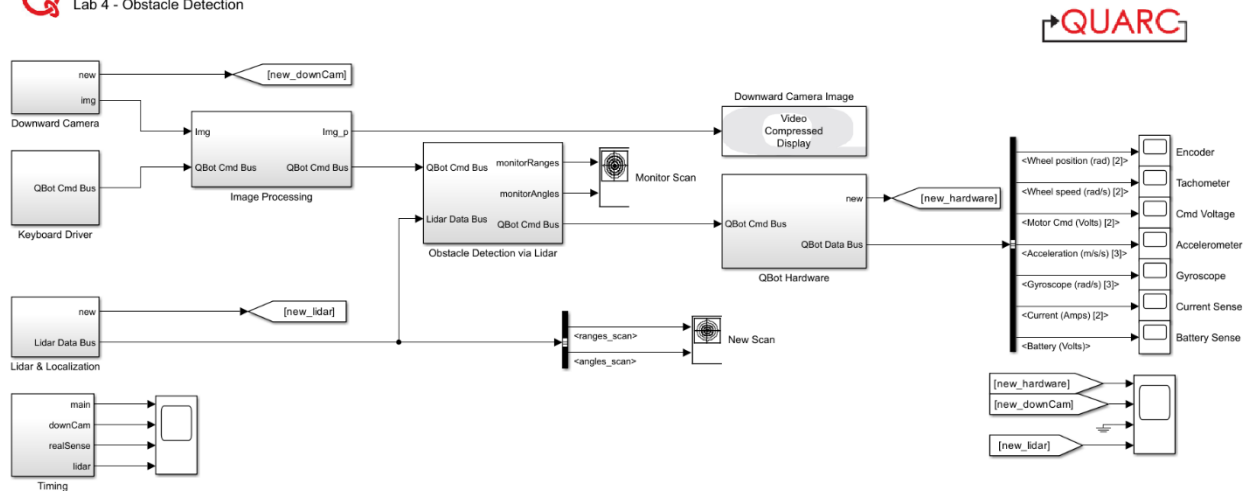
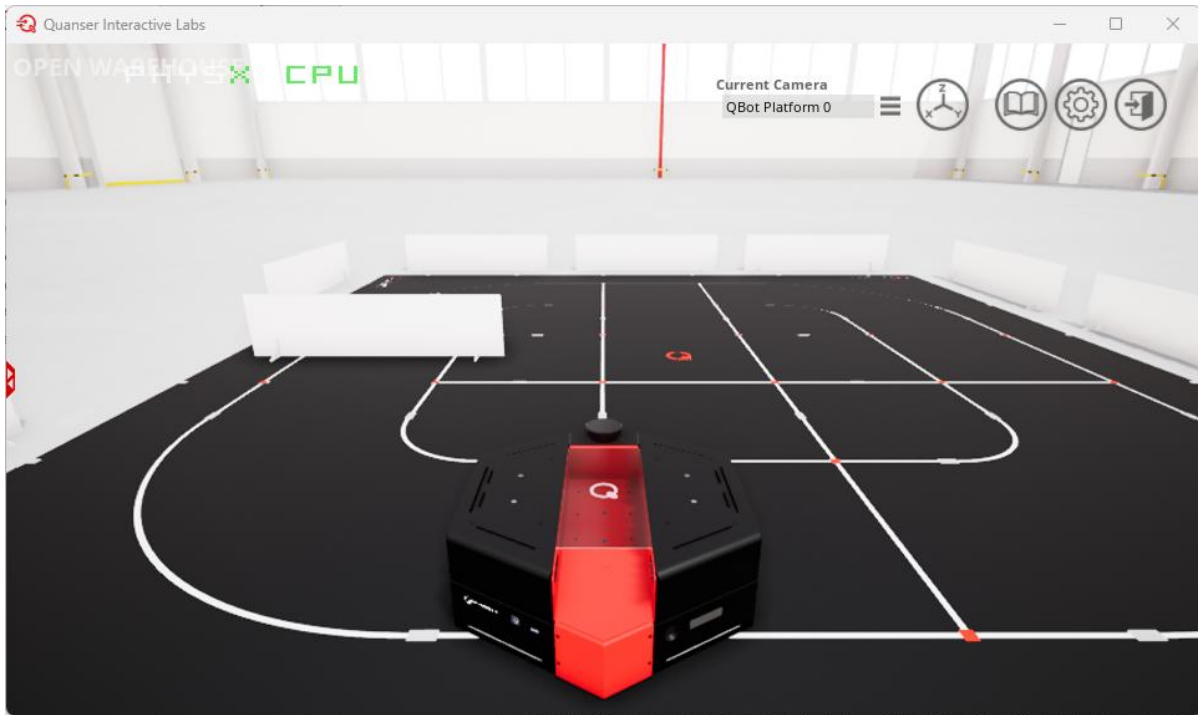

Figure 1. Obstacle Detection Simulink Model
Figure 2. Successful set up of the Quanser Interactive Lab Workspace
3. Open the Simulink Model Obstacle_detection.slx, as shown in Figure 1. The loading of the Simulink model also triggers the setup script for QLab. When the script is run successfully, the QBot and the Environment should be spawn in QLab and User LEDs on the virtual QBot will turn white, as shown in Figure 2.